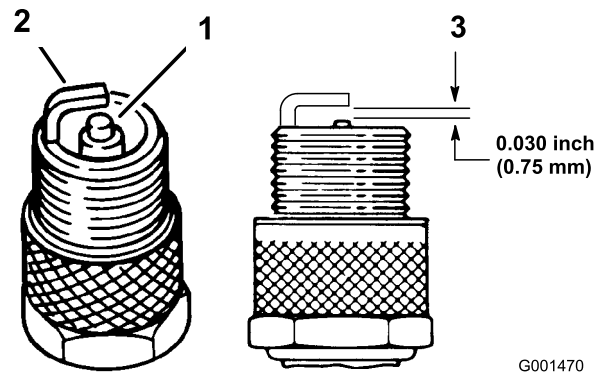

Figure 45
4. Check the condition of the side electrode, center electrode, and center electrode insulator to ensure that there is no damage (Figure 45).
5. Set the air gap between the center and side of the electrodes at 0.762 mm (0.030 inch) (Figure 45).